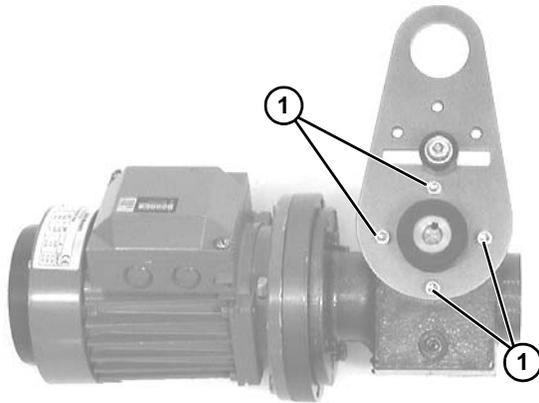

Figure 5
- If required, change gearmotor position by removing four (4) screws (**Figure 5, item 1**). Rotate gearmotor to other position and replace screws. Tighten to 103 in-lb (12 Nm).